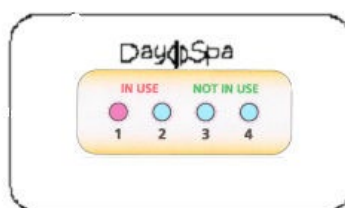

Figure 14
2. **Room Availability:** Available room will be indicated by a green light corresponding to the appropriate steam room number. Occupied (in use) steam room will be indicated by a red light. **(figure 14)**